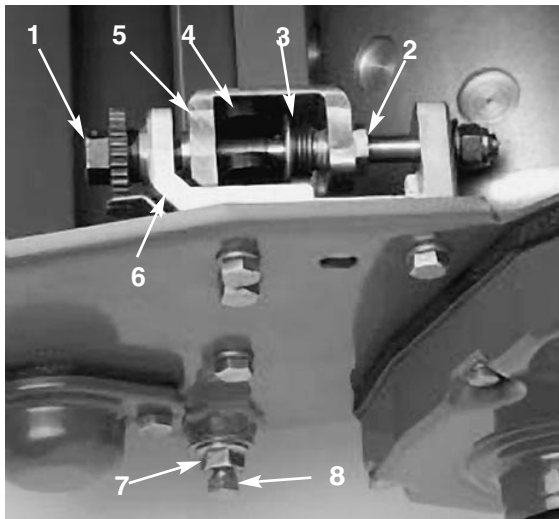

Figure 39
- Turn the bedbar adjuster screw counter-clockwise, until the channel bottoms out in the adjuster frame (Fig. 39).
- On each side of the machine, loosen the jam nut securing the bedbar bolt (Fig. 39).
- Remove each bedbar bolt allowing bedbar to be pulled downward and removed from machine. Account for (2) nylon and (2) stamped steel washers on each end of bedbar (Fig. 39).